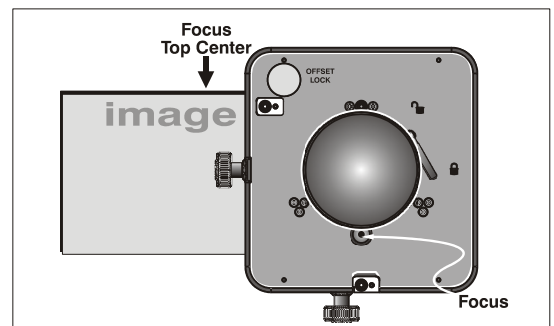

Figure 2.39. Adjust Top Focus
1. When left/right boresight is complete, focus the image at the top edge of the screen (Figure 2.39.).